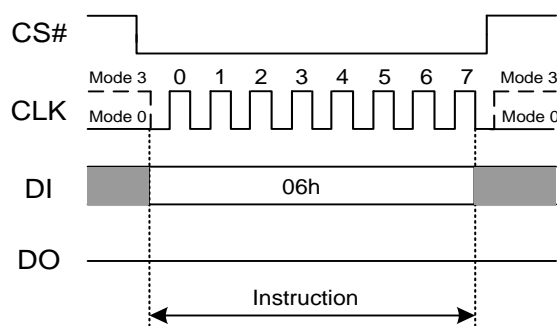

Figure 7.2 Write Enable Instruction
The Write Enable instruction (Figure 7.2) sets the Write Enable Latch (WEL) bit in the Status Register to a 1. The WEL bit must be set prior to every Page Program, Sector Erase, Block Erase, Chip Erase and Write Status Register instruction. The Write Enable instruction is entered by driving CS# low, shifting the instruction code "06h" into the Data Input (DI) pin on the rising edge of CLK, and then driving CS# high.